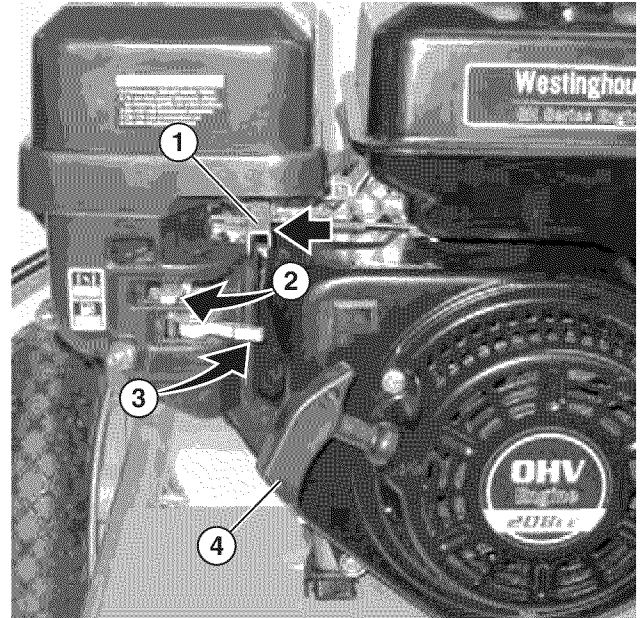

Figure 42 – Throttle Lever, Choke Lever, Fuel Shutoff Valve
5. Move the throttle lever to the full throttle position (see Figure 42). Move the choke lever to the choke position. Open the fuel shutoff valve.